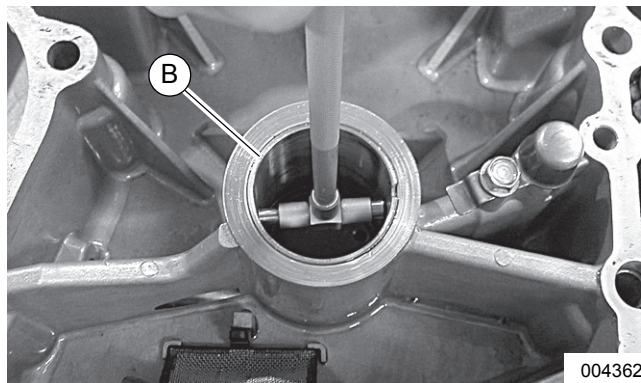

Figure 11-8. Check PTO Bearing
See Figure 11-8. Sump cover must be replaced if PTO bearing (B) is damaged or measures larger than 1.663 in (42.25 mm) diameter.